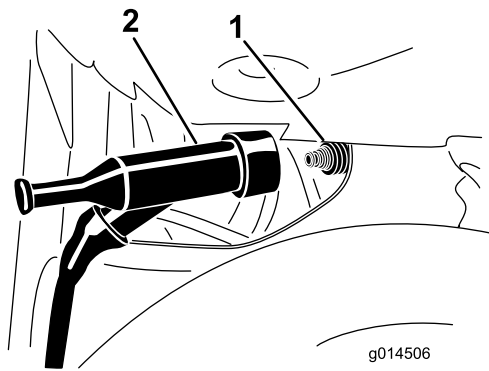

Figure 43
3. Pull the spark-plug wire off the terminal of the spark plug (Figure 43).
4. Push the spark-plug wire onto the terminal of the spark plug (Figure 43).